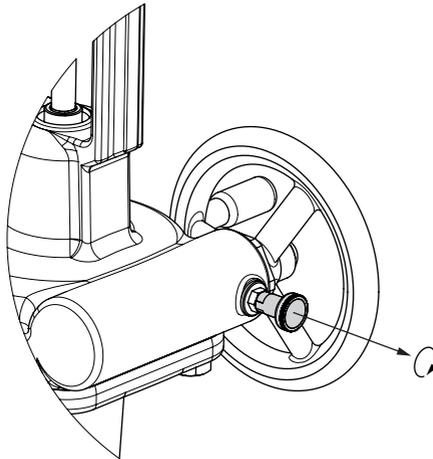

Fig. 11: Releasing the locking bolt
1. To change from automatic to manual operation, unlock the handwheel. Pull the locking bolt and turn it 90° to unlock the handwheel (see Fig. 11).
4. Lock the handwheel. Turn the locking bolt by at least 90° until it engages again to lock the handwheel (see Fig. 11).
3. Turn the locking bolt by at least 90° until it engages again to lock the handwheel (see Fig. 11).
1. Pull the locking bolt and turn it 90° to unlock the handwheel (see Fig. 11).